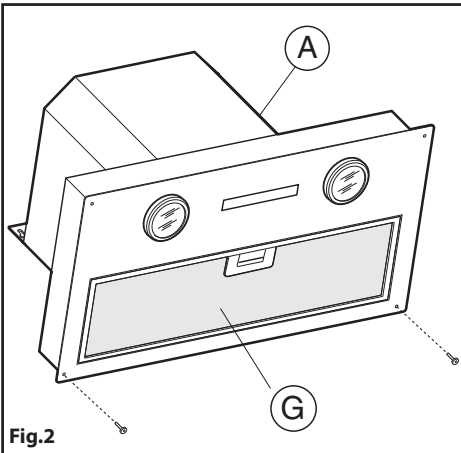

Fig.2
To transform the exhausting version to a filter version rangehood, active carbon filters are required and you should ask for them from your local supplier. The active carbon filters purify the air that is recycled within the environment. The filters are not washable or regenerative and must be replaced at least every four (4) months. The saturation of the active carbon depends on the frequent use of the rangehood, from the type of food cooked and the frequency of cleaning the grease. The rectangular filters must be affixed to the exhausting area inside the rangehood. Fit the pivots (K) in the appropriate slots (Fig 4) then, using the appropriate handles, and with a turning movement towards the top slot in the pivots (J) which are located next to the handle. To do this operation remove the grill G (Fig 2). The air is put back into the atmosphere via the connection tube passing through the cabinet to the linking ring B (Fig 6).